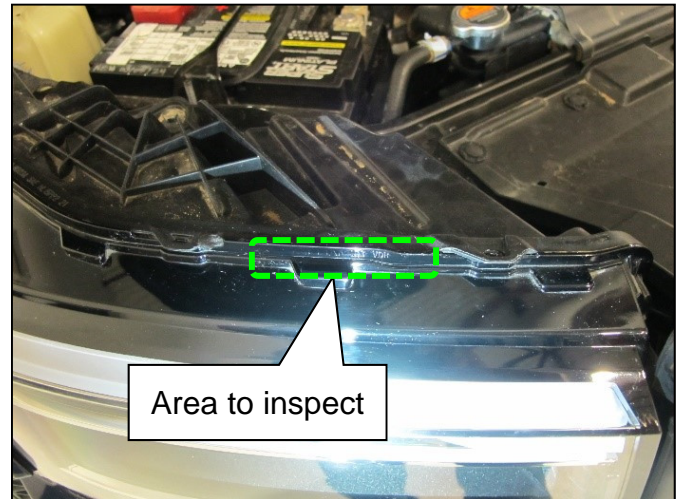

Figure 3
3. Locate the inspection area on the top of the front passenger (RH) combination lamp.
- The inspection area is outlined in GREEN in Figure 3.